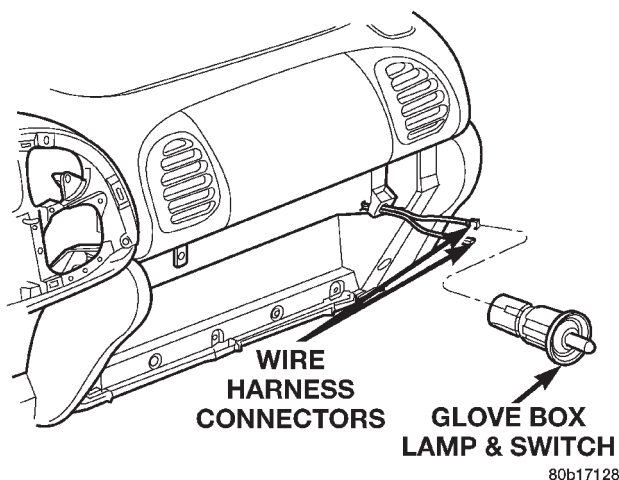

Fig. 21 Glove Box Lamp and Switch Remove/Install
- (1) Disconnect and isolate the battery negative cable.
- (2) Remove the glove box from the instrument panel. See Glove Box in the Removal and Installation section of this group for the procedures.
- (3) Reach through and above the instrument panel glove box opening to unplug the two wire harness connectors from the glove box lamp and switch (Fig. 21).